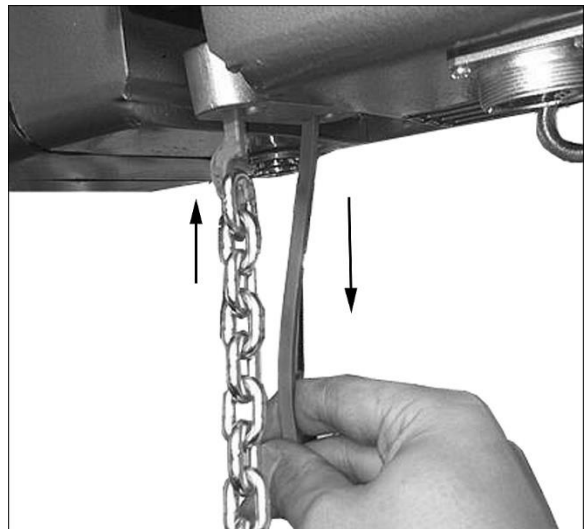

Figure 13-3
7. Connect hook of chain puller to the link on new chain (Figure 13-3), and pull chain through until it engages the sprocket. **Do not let the chain twist or bind as it is being pulled through the hoist.**
7. Connect hook of chain puller to the link on new chain (Figure 13-3) and move chain through until sprockets are engaged.
CAUTION The link on the load side end must be a vertical link, as shown in Figure 13-3. If it is a horizontal link, the chain will have a twist in it.